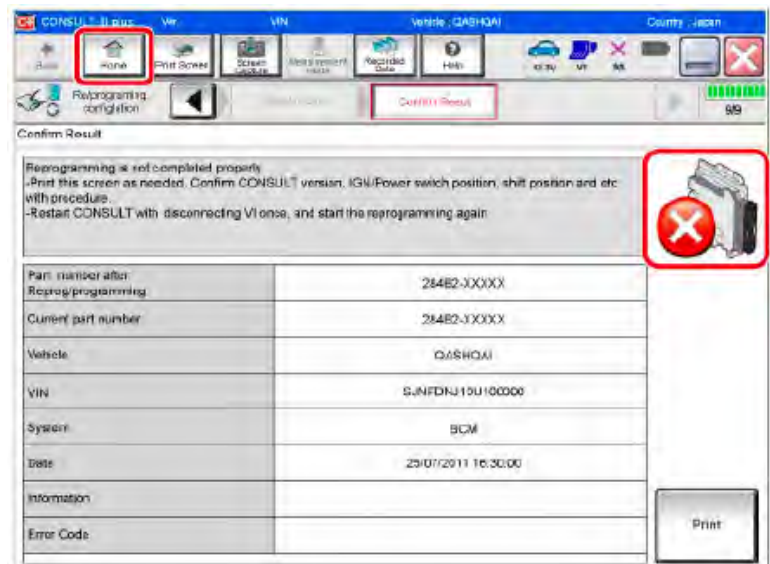

Figure 7
**If reprogramming does not complete and the “X” icon displays as shown in Figure 7:**